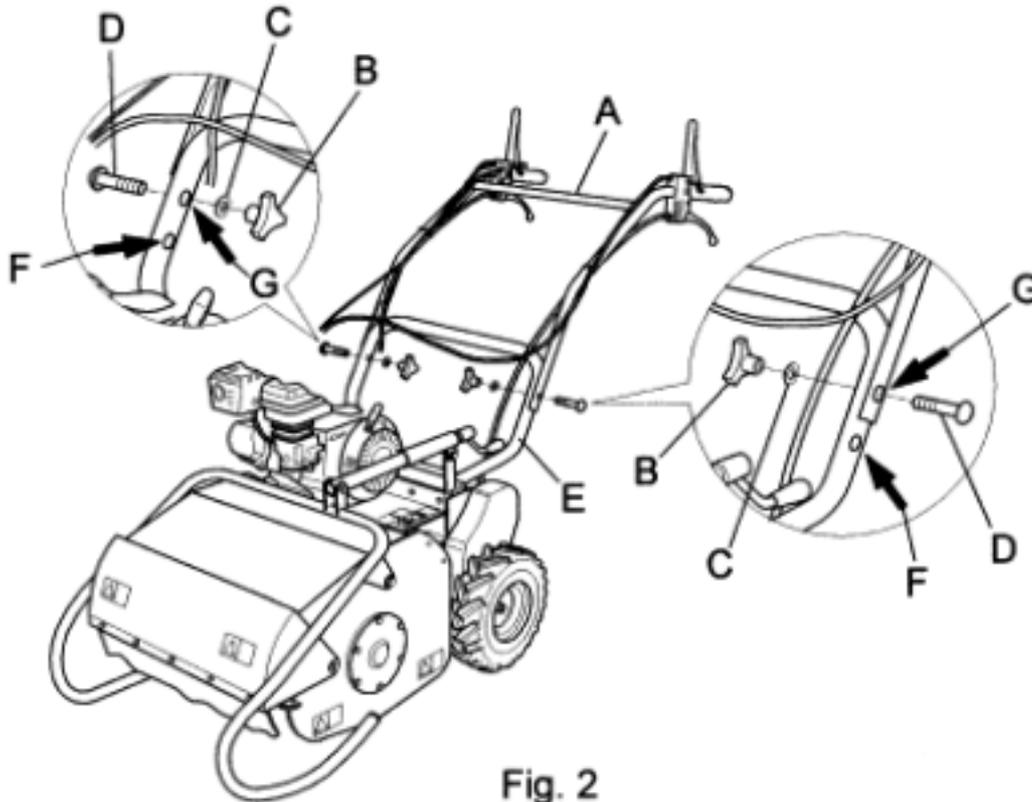

Fig. 2
- Lift the handlebar (Fig. 2 ref. A) and insert it in the support shown in Fig. 2 ref. E.
- Select the required height by inserting the screws (fig. 2 ref. D) in one of the two upper or lower holes (Fig. 2 ref. F,G) on the handlebar support (fig. 2, ref. E). Place the washers (fig. 2 ref. C) on the appropriate screws (fig. 2, ref. D) and fit the knobs (fig. 2 ref. B), screwing them down tightly.